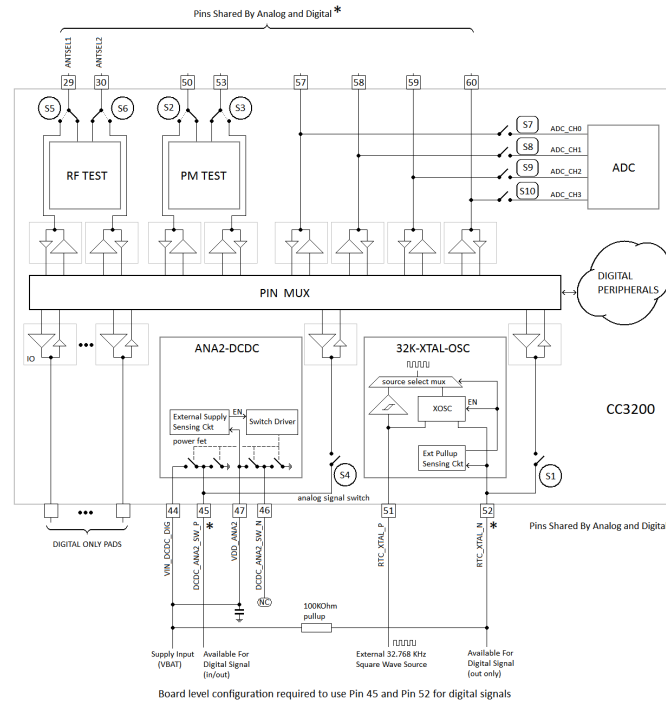

Figure 3-2. Board Configuration to Use Pins 45 and 52 as Digital Signals
- (1) LPDS mode: The state of unused GPIOs in LPDS is input with 500 kΩ pull-down. For all used GPIOs, the user can enable internal pulls, which would hold them in a valid state.
- (2) Hibernate mode: The CC3200 device leaves the digital pins in a Hi-Z state without any internal pulls when the device enters hibernate state. This can cause glitches on output lines unless held at valid levels by external resistors.
- (3) To minimize leakage in some serial flash vendors during LPDS, TI recommends the user application always enable internal weak pull-downs on FLASH_SPI_DATA and FLASH_SPI_CLK pins.
- (4) This pin has dual functions: as a SOP[2] (device operation mode), and as an external TCXO enable. As a TXCO enable, the pin is an output on power up and driven logic high. During hibernate low-power mode, the pin is in a high impedance state but pulled down for SOP mode to disable TCXO. Because of SOP functionality, the pin must be used as output only.
- (5) Higher leakage current from the onboard serial flash can occur due to floating inputs when the device enters Hibernate mode. See reference schematics for recommended pull-up and pull-down resistors.
- (6) For details on proper use, see Section 3.2, Drive Strength and Reset States for Analog-Digital Multiplexed Pins.
- (7) This pin is one of three that must have a passive pullup or pulldown resistor on board to configure the chip hardware power-up mode. For this reason, the pin must be output only when used for digital functions.
- (8) This pin is reserved for WLAN antenna selection, controlling an external RF switch that multiplexes the RF pin of the CC3200 device between two antennas. These pins should not be used for other functionalities in general.
- (9) Device firmware automatically enables the digital path during ROM boot.
- (10) Pin 45 is used by an internal DC-DC (ANA2_DCDC) and pin 52 is used by the RTC XTAL oscillator. These modules use automatic configuration sensing. Therefore, some board-level configuration is required to use pin 45 and pin 52 as digital pads (see Figure 3-2). Because the CC3200R device does not require ANA2_DCDC, the pin can always be used for digital functions. However, pin 47 must be shorted to the supply input. Typically, pin 52 is used for RTC XTAL in most applications. However, in some applications a 32.768-kHz square-wave clock might always be available onboard. In such cases, the XTAL can be removed to free up pin 52 for digital functions. The external clock must then be applied at pin 51. For the chip to automatically detect this configuration, a 100K pull-up resistor must be connected between pin 52 and the supply line. To prevent false detection, TI recommends using pin 52 for output-only functions.
- (11) VDD_FLASH must be shorted to V_{supply}.
- (12) To use the digital functions, RTC_XTAL_N must be pulled high to V_{supply} using 100-KΩ resistor.
- (13) This pin is shared by the ADC inputs and digital I/O pad cells. Important: The ADC inputs are tolerant up to 1.8 V. On the other hand, the digital pads can tolerate up to 3.6 V. Hence, care must be taken to prevent accidental damage to the ADC inputs. TI recommends that the output buffer(s) of the digital I/Os corresponding to the desired ADC channel be disabled first (that is, converted to high-impedance state), and thereafter the respective pass switches (S7, S8, S9, S10) should be enabled (see Section 3.2, Drive Strength and Reset States for Analog-Digital Multiplexed Pins).
- (14) Requires user configuration to enable the ADC channel analog switch. (The switch is off by default.) The digital I/O is always connected and must be made Hi-Z before enabling the ADC switch.